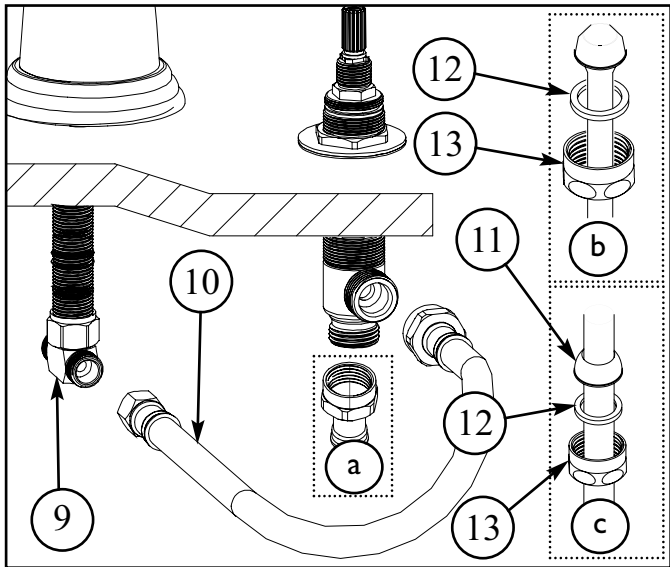
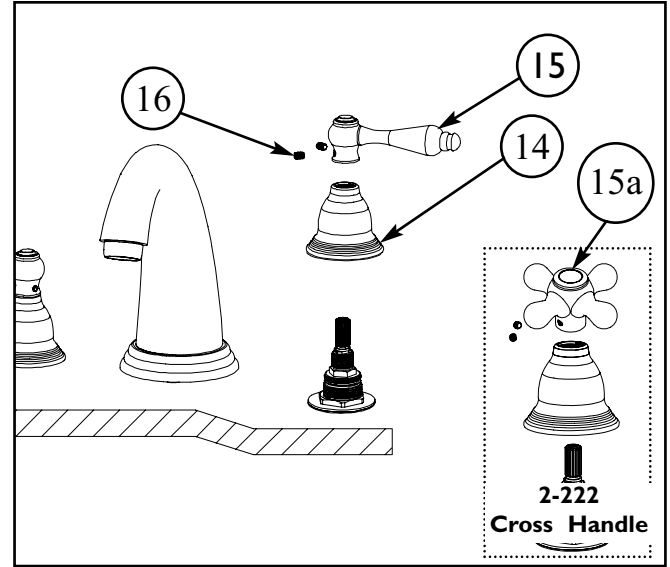

Figure 3
Figure 4
4. Connect large end of flexible HOSE (10) to side outlet of each valve BODY (7). Attach other end of HOSE (10) to either side of the TEE (9). (Hand-tighten and secure each connection with a wrench ¼ turn.) See Figure 3.
5. Connect hot/cold water supply to appropriate 1/2" NPSM valve BODY (7), utilizing one of the three following types of risers. Supply risers not included. See Figure 3.
- a. 1/2" IPS flexible riser: discard rubber nosecone WASHER (11), friction WASHER (12) and coupling NUT (13).
- b. 3/8" or 1/2" OD bullnose riser: utilize friction WASHER (12) and coupling NUT (13).
- c. 1/2" copper riser: utilize rubber nosecone WASHER (11), friction WASHER (12) and coupling NUT (13).
6. Attach ESCUTCHEON (14) and HANDLE (15). Secure handles into place with SETSCREW (16). Any adjustments for rotational alignment must be made to the valve BODY (7) - not to the cartridge. (Note: Allow minimum spacing between HANDLE (15) and ESCUTCHEON (14) to prevent damage to the surface finish.) For cross handle style, rotate handle to off position press BUTTON (15a) onto cross handle. See Figure 4.